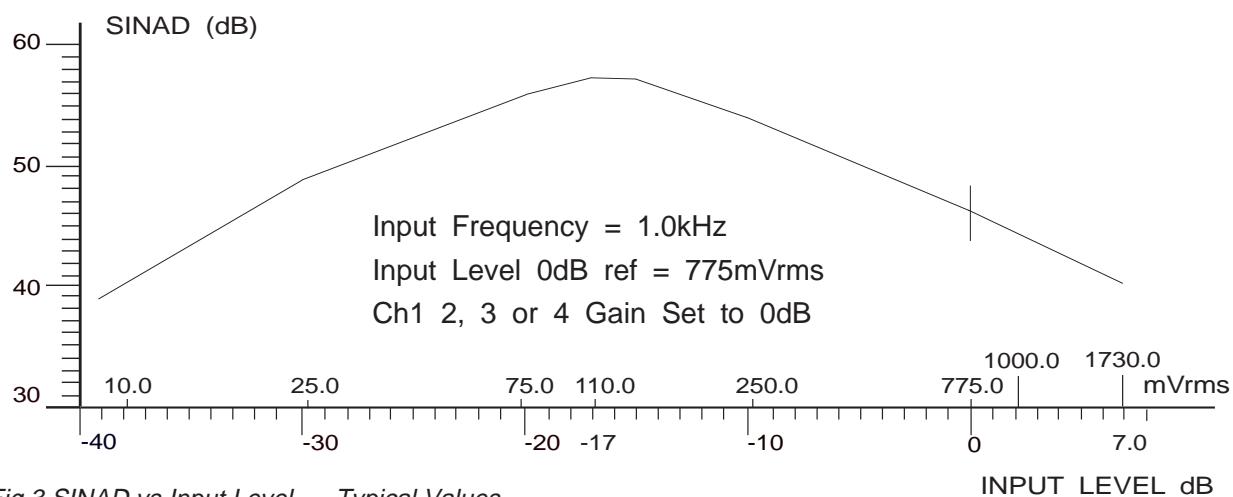

Fig.3 SINAD vs Input Level – Typical Values
- (i) Input signal amplitudes should be applied with due regard to Figure 3.
3. See Figure 3.